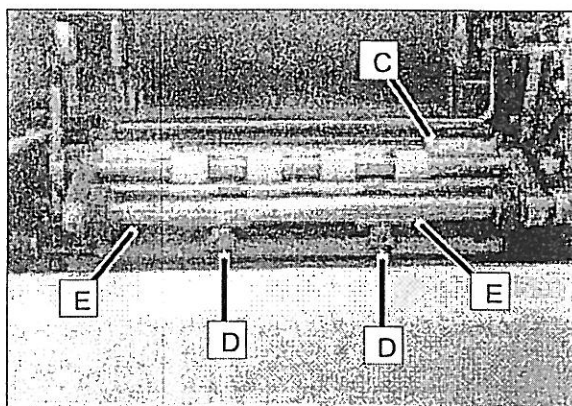

Fig. 6-19
A measuring piston strip (E) which has worked loose can lead to mechanical damage to both measuring piston and rotary slide gate. After installation of the measuring pistons firmly tighten the knurled nuts (D) (see Fig. 6-19).